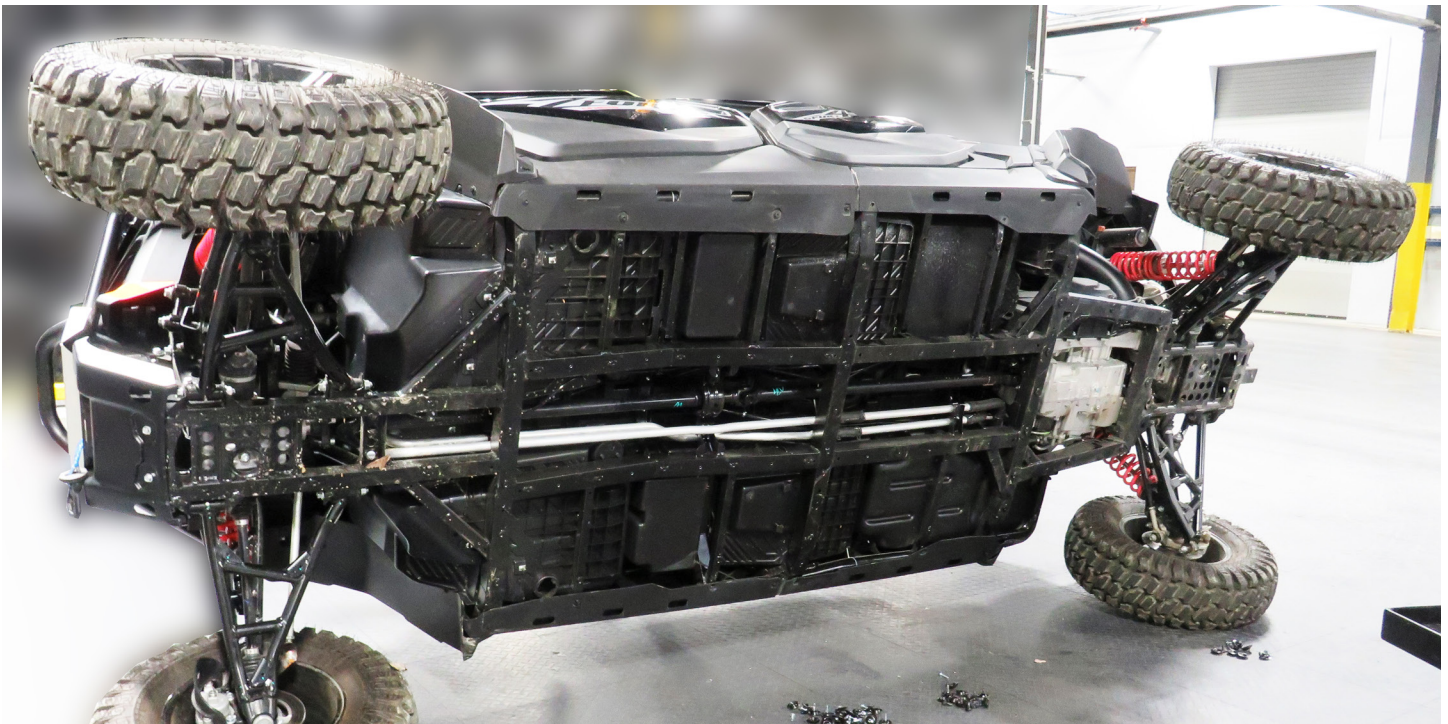

Fig.2
2.First, you will need to get the vehicle up off the ground on secure jacks or equivalent, or on it's side as we prefer to do. Then remove your **Factory Skid Plates** or covers to start, as shown in **Fig.2**.